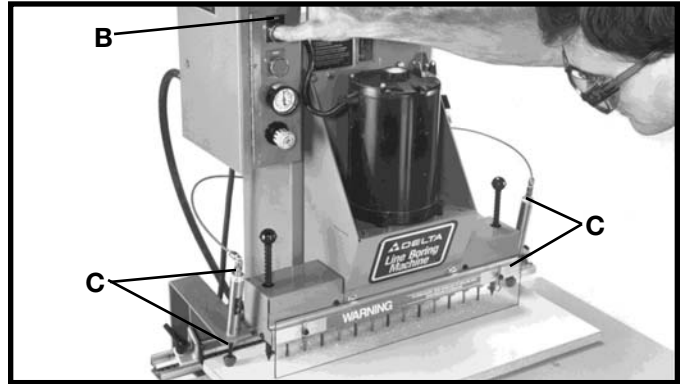

Fig. 67
2. Depress and hold the start button (B) Fig. 67. As soon as the start button (B) has been depressed, the two air clamps (C) will activate and the air clamp plungers (C) will lower, holding the workpiece firmly against the table. The motor will also turn on and the boring head will lower to its pre-set depth. After the boring operation is completed, the boring head will raise up and the motor will shut off. If you release the start button at any time during the boring cycle, the motor will shut off and the boring head will return to the up position.